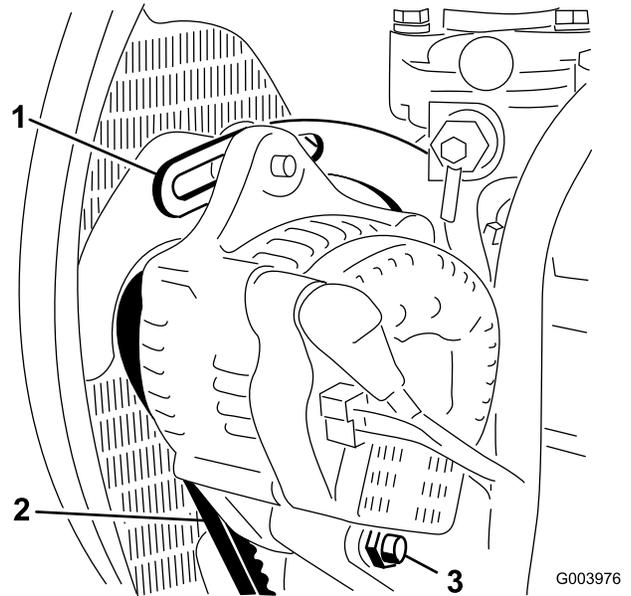

Figure 65
2. Check the tension of the alternator belt by depressing it (Figure 65) midway between the alternator and the crankshaft pulleys with 10 kg (22 lb) of force.
3. Loosen the bolt securing the brace to the engine (Figure 65), the bolt securing the alternator to the brace and the pivot bolt.